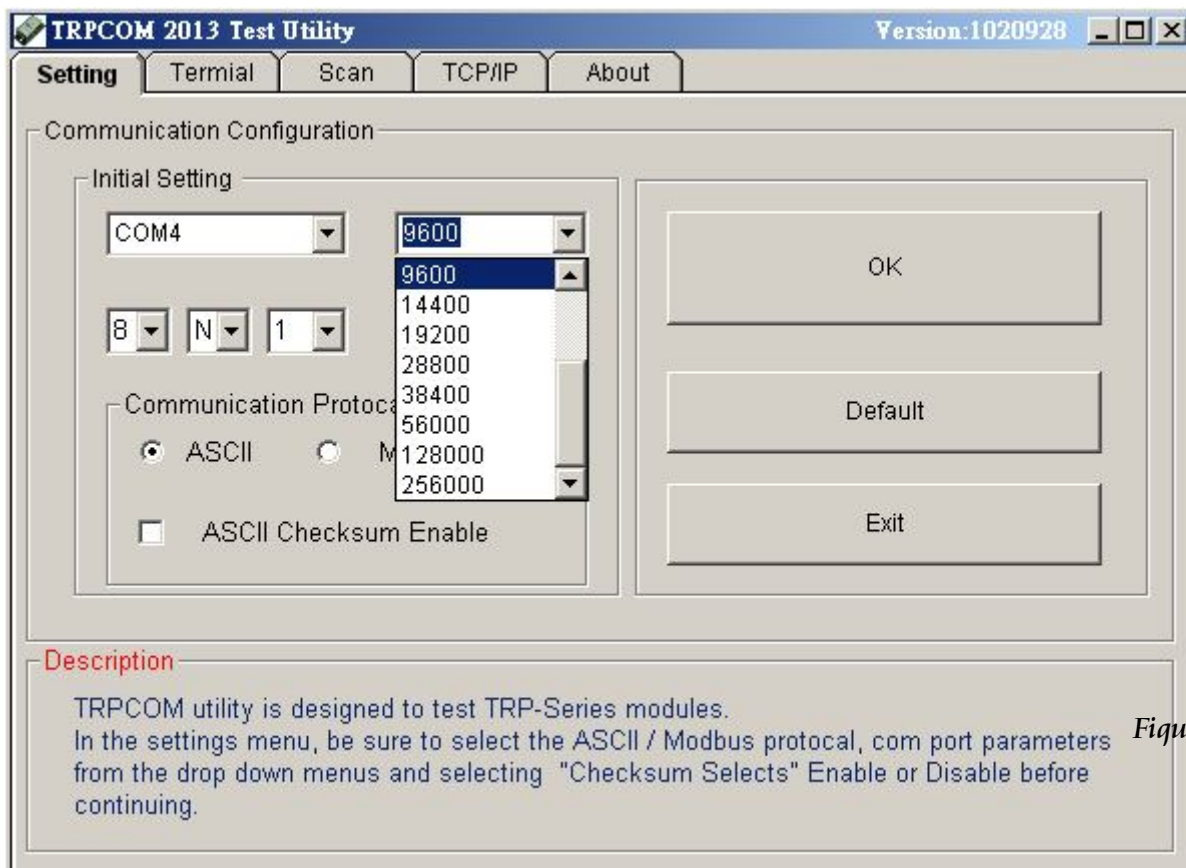

Figure 1
1.The "Setting"function is for user to initiate the software to set the Com Port from 1 to 20 and setting the Baud-Rate from 1200 to 115200,Checksum Enable or Disable. ...See Figure 1